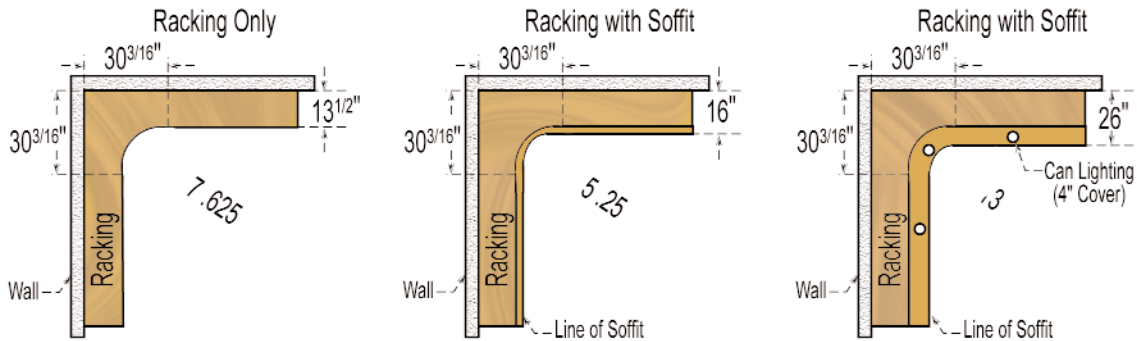

Figure 5
9. All finished soffits for radius racking. (See figure 5 below)